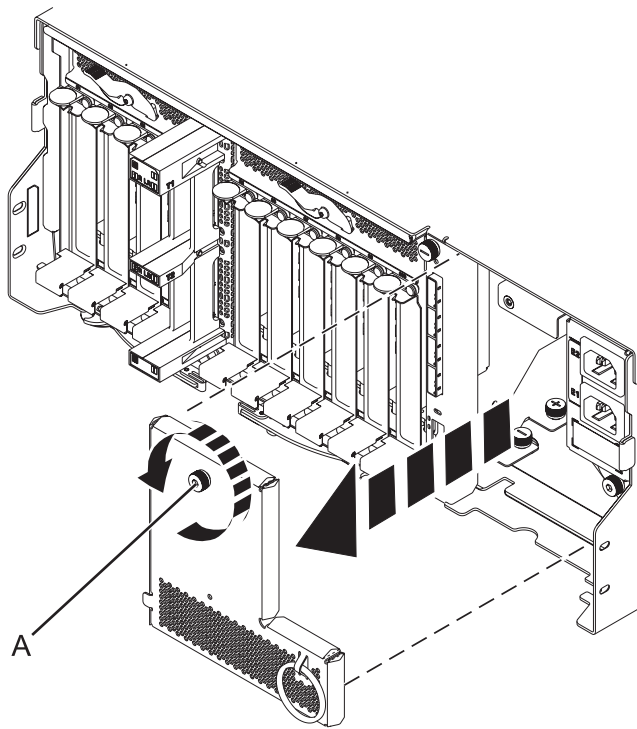

Figure 57. Removing the power cord plate
10. Remove the power cord plate by turning the thumbscrew (A) and pulling the plate away from the system, as shown in Figure 57.